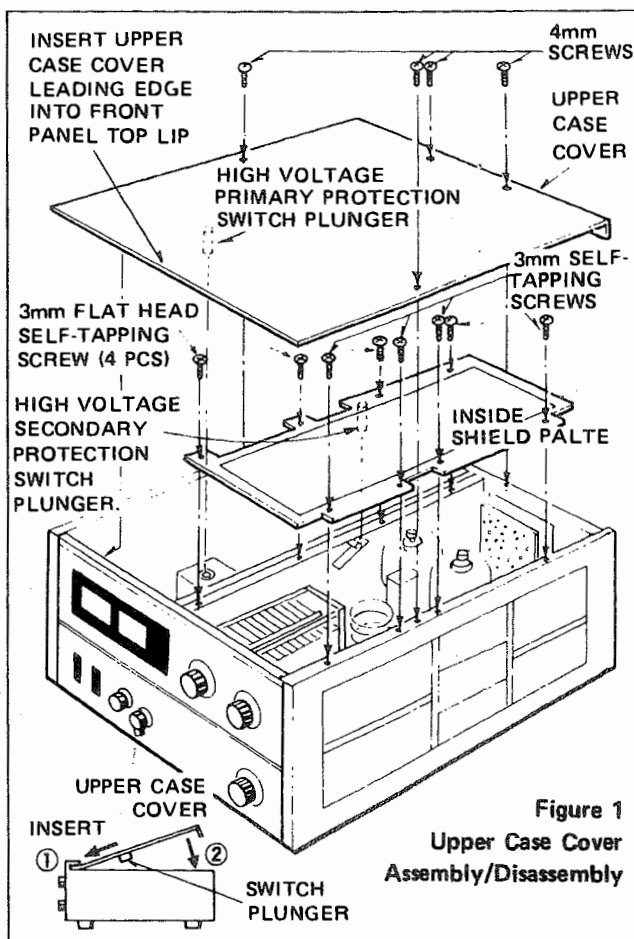

Figure 1
Proceed as follows: (Refer to Fig. 1)
2. Refer to Fig. 1. The inside shield plate includes the high voltage secondary protection switch plunger (a bakelite bar.) Position the plate so that the plunger will securely engage the spring plate for ungrounding the plate high voltage.